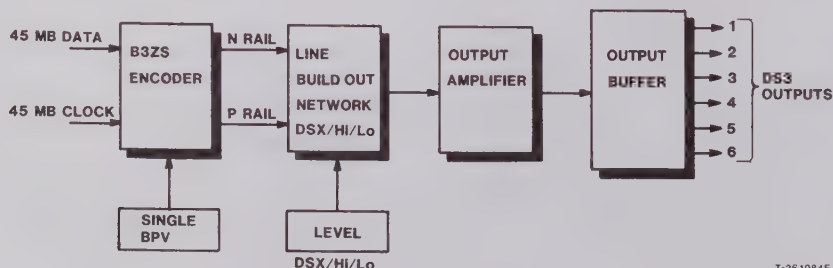

Fig. 9 - Output Amplifier Board Functional Block Diagram
5.18 The Output Amplifier board (see Fig. 9) converts the NRZ data to a B3ZS format, sets the output level of the signal, and inserts single bipolar-pulse-violations in the B3ZS output when the front-panel SINGLE ERROR BPV pushbutton is pressed.